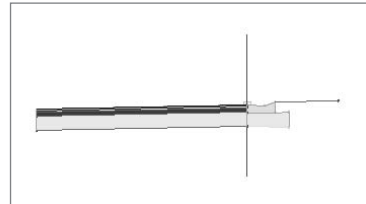

Figure A.74
5. Add the **LaneOutsideSuper** subassembly to the left side of the assembly. The completed assembly will look like Figure A.74.